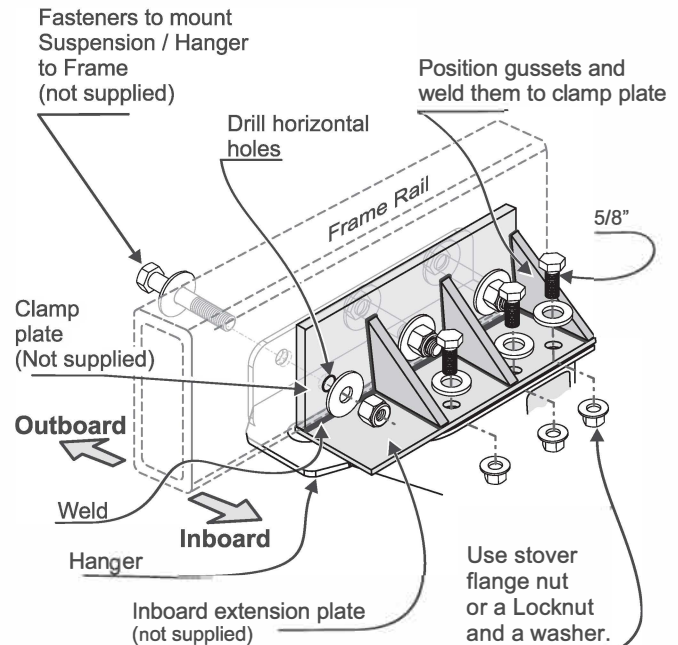

Fig. 3 Reinforcing frame
5. Bolt hanger side plate to frame:⁽³⁾ (fig. 3): Use holes in the hanger side plate as a template (3 holes). Drill horizontal holes to the side of frame at each side of trailer. Use 5/8" UNC (grade 5 minimum) bolts, lock-nuts, and washers to mount hangers to frame (fasteners are not included). Torque mounting bolts to 165-175 ft.lbs (224-237 N.m).
- 6.a) Bolt hanger top plate to frame:⁽³⁾ Hanger top plate must be in full contact with the frame so that it can be bolted to frame. Use holes in the hanger top plate as a template and drill vertical holes. In case frame is not wide enough, hanger top plate can be bolted to crossmembers of frame instead (as long as those crossmembers are strong enough). If crossmembers exist but there is a gap between bottom surface of crossmembers and top of hanger then steel spacers (plates) should be used to fill up the gap. Drill common holes to bolt hanger to crossmembers. Use 5/8" UNC (grade 5 minimum) bolts and washers to mount hanger top plate to frame (fasteners are not included). Make sure bolts are long enough the entire length of nuts but they are not too long to interfere with other parts of suspension in the hanger. If trailer does not have crossmembers (but frame main beam itself is sufficiently strong to overcome torsion of frame) then fabricate an inboard extension and attach it to the frame. Reinforce it by gussets as necessary (fig. 3) to make it rigid.
(3) Welding the hanger is optional (instead of bolting it), but be aware that all paint around welding edges need to be ground off prior to welding. Protect Aeon® rubber spring from extreme heat generated during welding.
(4) When bolting the frame be aware that hollow (tubular) sections of frame may not be sufficiently strong to withstand compression of bolted joints and therefore may collapse unless they are reinforced; consider fabricating a bracket similar to the one shown in fig 3 which has a clamp plate to go between the nut/head of bolt and tube. Such bracket must be rigid enough to allow you to apply a full torque to bolts.